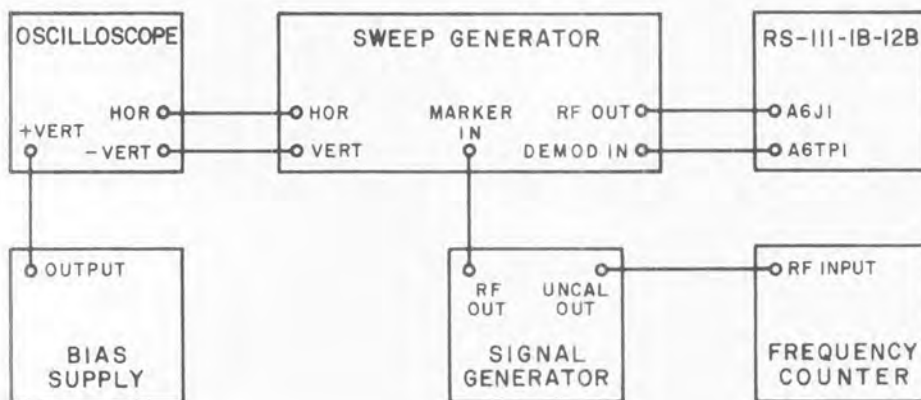

Figure 4-18. Test Setup, 60-21.4 mc Converter Alignment
- (1) Connect the equipment as shown in Figure 4-18
- (2) Set the oscilloscope controls as follows:
- (3) Set the sweep generator controls as follows: